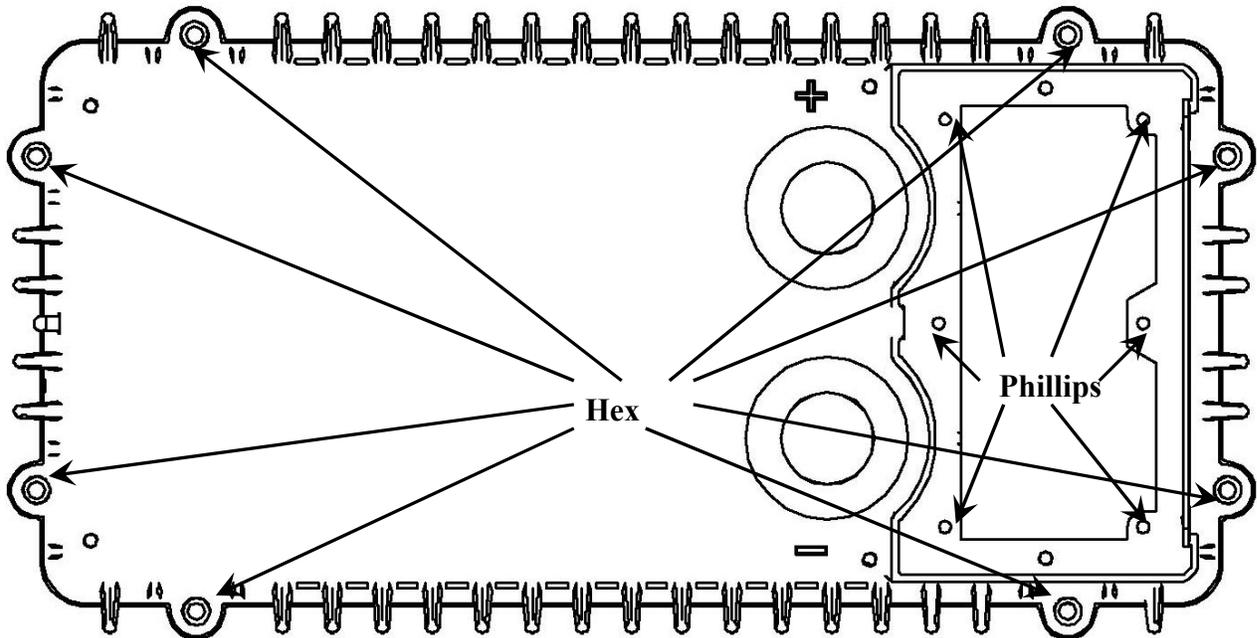
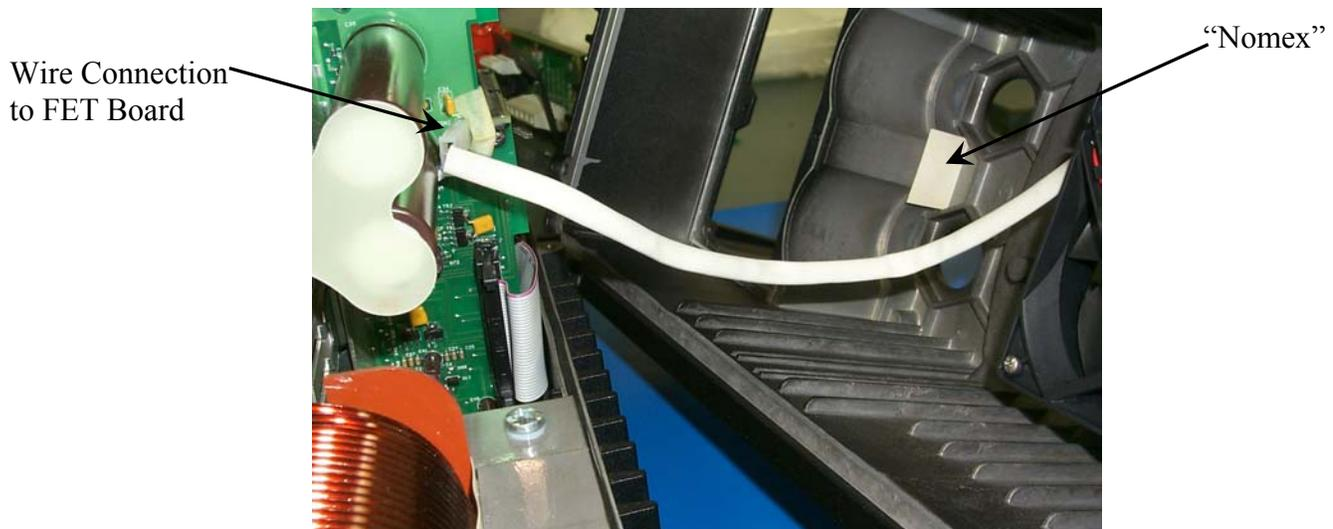

Figure 2
Figure 3
Use a #2 Phillips tip screwdriver and remove the six screws inside the AC wiring compartment (Figure 2, Phillips). These are 6-32 x 1/2" stainless steel pan head screws (In case you lose any). Before getting into the unit you need to make sure you do not have a static charge built up on you or your clothes. The safest way to accomplish this is to stand naked in a mud puddle while disassembling the inverter. Another method would be to make sure you are wearing only 100% cotton clothes. Cotton does not build up a static charge. In addition, ground yourself by touching something like a water pipe, electrical ground conductor etc. in order to bleed off any charge. Static can destroy boards. The form of static that is harmful is much less than what actually makes sparks. 30 volts can damage parts, so don't take chances and don't handle any boards unless static control measures have been taken.
Pay attention to this one or you'll hate yourself later! Use a 4mm Allen wrench (included) to remove the 8 stainless steel socket head cap screws that connect the top to the bottom casting (Figure 2, Hex). The FX's fan is mounted to the top cover. It plugs into the FET board. If you pull the top cover off without thinking, it will rip the wires right out of the connector. (This is where you will start swearing and your customer will become alarmed!) If this happens, you have two choices; (1) get new Molex crimp terminals and the special crimp tool to correctly fix the problem, or (2) after replacing the fan, solder the fan wires onto the sockets that are still attached to the mating connector on the FET board. Hint: cut some of the plastic away first so you can get to the pins. The red wire goes towards the bottom casting (the latch side of the connector). Figure 3 gives you an idea how long the wires are. There are two small O-rings that fit into slots of the battery terminals. If they aren't in their slots, they may be stuck to the underside of the top cover. Remove these small O-rings so they don't get lost. There is also a very large O-ring that travels the perimeter of the chassis. This doesn't need to be removed but if it comes out it should be reinstalled before the top cover is put back on. If this O-ring is too small, it can be stretched. There also is a rectangular gasket in the AC and AUX wiring section that prevents water from entering the FX. This gasket may or may not be attached to the AC board. If the gasket isn't attached, check the underside of the FX. The last thing that should be noted is the square piece of "Nomex" attached to the underside of the top cover (see Figure 3). Sometimes this piece falls out or is loose. If this is the case please use some silicone to glue it back in place. Make sure it is fairly dry before attaching the top cover.